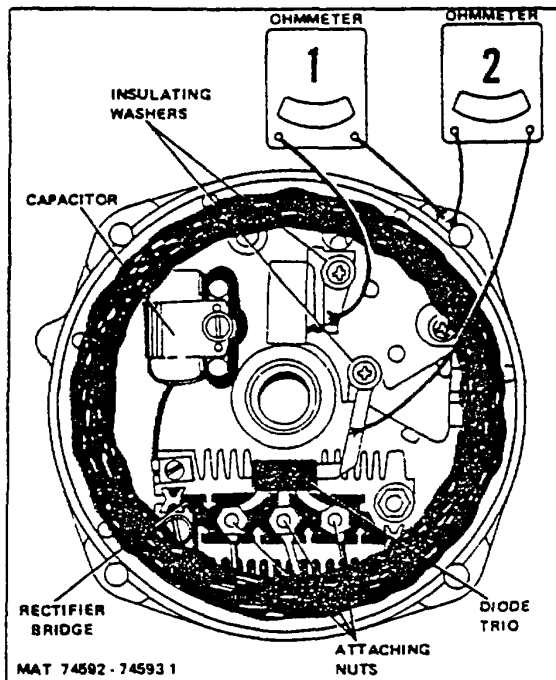
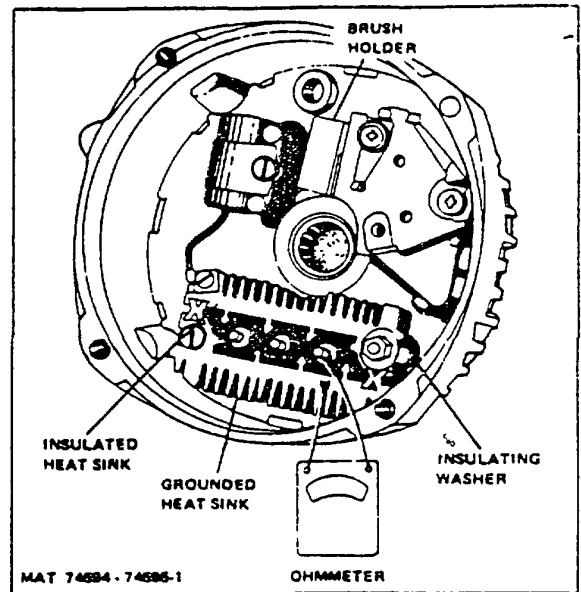
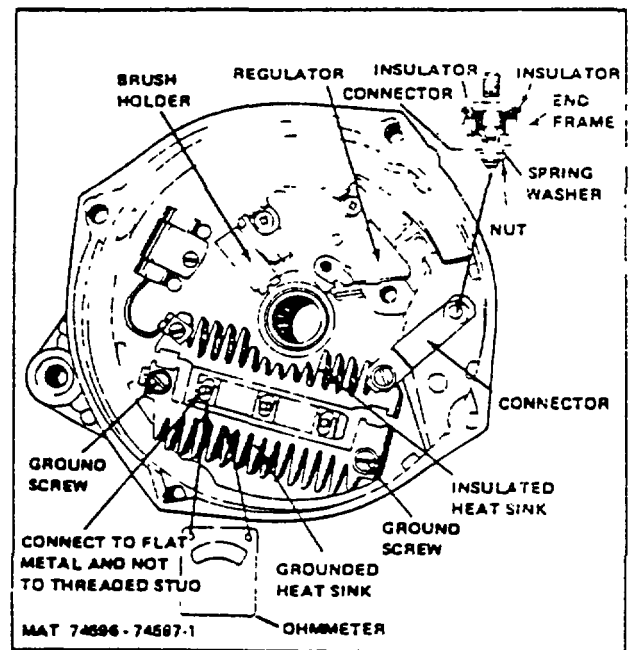

Figure 2-6. End Frame Assembly, Inside View
Figure 2-9. Rectifier Bridge Check
Figure 2-10. Rectifier Bridge Check
- (3) Check field winding for grounds. If grounded replace only the rotor.
- (4) Connect ohmmeter, using lowest range scale, from brush lead clip to end frame as shown in Step 1, Figure 2-6, then reverse lead connections.
- (5) If both readings are zero, either the brush lead clip is grounded or regulator is defective.
- (6) A grounded brush lead clip can result from omission of insulating washer (Figure 2-6), omission of insulating sleeve over screw, or damaged insulating sleeve over screw, or damaged insulating sleeve. Remove screw to inspect sleeve. If satisfactory, replace regulator as indicated in Alternator Repair section.
3. Diode Trio Check The diode trio is identified in Figure 2-6. First, connect an ohmmeter, using lowest range scale, from diode trio long connector to end frame as shown in Step 2, Figure 2-6; then, reverse lead connections. If both readings are the same, check for grounded brush lead clip caused by omission of insulating washer (Fig. 2-6), omission of insulating sleeve over screw, or damaged insulating sleeve. Remove screw to inspect sleeve. If screw assembly is correct, and both ohmmeter readings are the same, replace regulator.
Figures 2-6 and 2-8 illustrate two diode trios differing in appearance. Either one of these diode trios may be used in the alternator, since the two are completely interchangeable.
To check the rectifier bridge, connect the ohmmeter to the grounded heat sink and one of the three terminals (Fig. 2-9). **IMPORTANT:** If rectifier bridge is constructed as shown in Figure 2-10, connect ohmmeter pressing down very firmly onto flat metal connector, and, not onto threaded stud as in Figure 2-9. Then reverse the lead connections to the grounded heat sink and same terminal. If both readings are the same, replace the rectifier bridge. A good rectifier bridge will give one high and one low reading. Repeat this same test between the grounded heat sink and the other two terminals, and between the insulated heat sink and each of the three terminals. This makes a total of six checks, with two readings taken for each check. The ohmmeter check of the rectifier bridge, and of the diode trio as previously covered, is a valid and accurate check. **DO NOT** replace either unit unless at least one pair of readings is the same.
To replace the rectifier bridge, remove the attaching screws, and disconnect the capacitor lead. Note the insulator between the insulated heat sink and end frame (Fig. 2-9). Rectifier bridges may vary in appearance but are completely interchangeable in these generators.
After removing the three attaching nuts, the stator, and diode trio screw (Figs. 2-9 and 2-10), the brush holder and regulator may be replaced by removing the two remaining screws. Note the two insulators located over the top of brush clips in Figure 2-6; these two screws have special insulating sleeves over the screw body above the threads. The third mounting screw may or may not have an insulating sleeve. If not, this screw must not be interchanged with either one of the other two screws, as a ground may result, causing no output or uncontrolled generator output. Regulators may vary in appearance but are completely interchangeable.